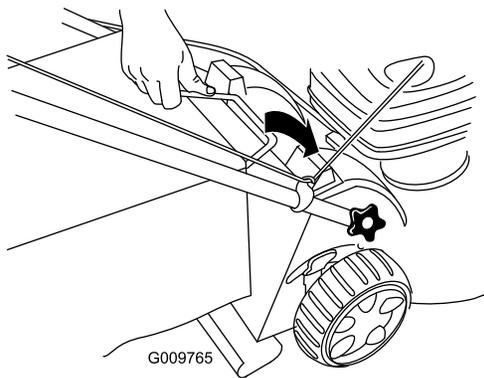

Figure 22
1. Install the mulch plug (Figure 21) or the grass bag (Figure 22) on the machine.